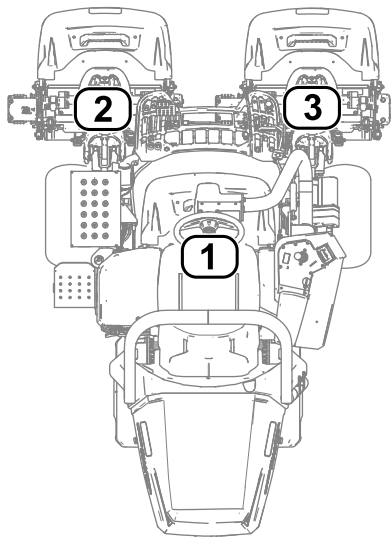

Figure 28
- **1** refers to the center cutting unit (Figure 28)
- **2** refers to the front left cutting unit (Figure 28)
- **3** refers to the front right cutting unit (Figure 28)